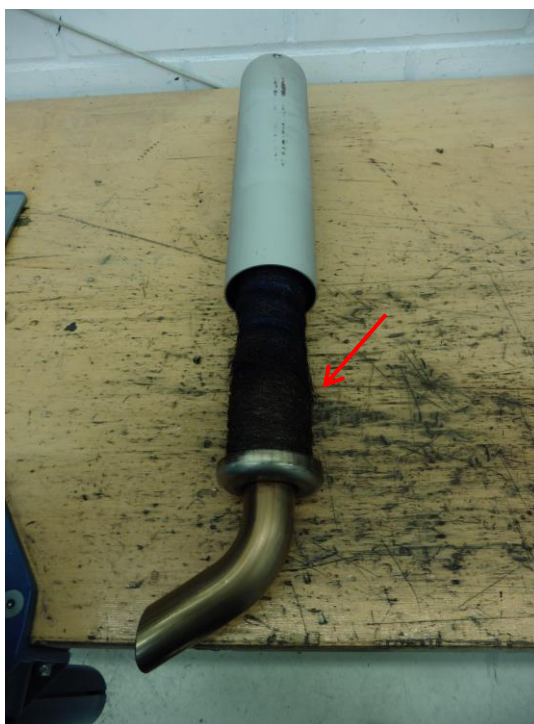

Fig.4: Wool
- 10 Check the wool. If it is visibly burnt, remove it completely and replace it with new one (Fig.4).